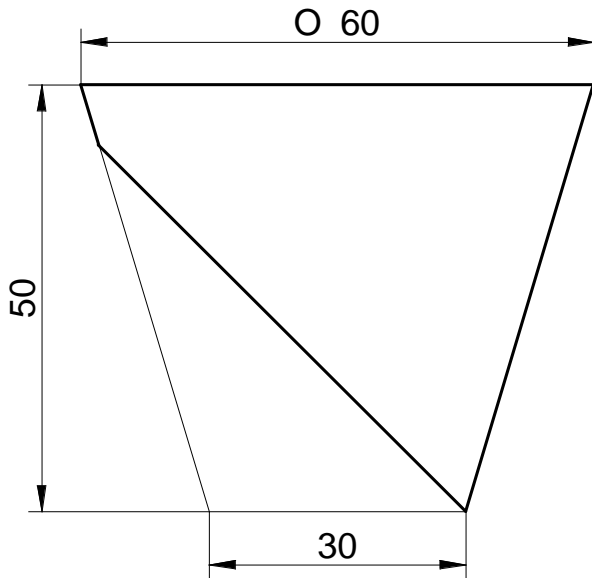

Fig 15
40. Draw the development of the following truncated cone. Fig 15 & Fig.16